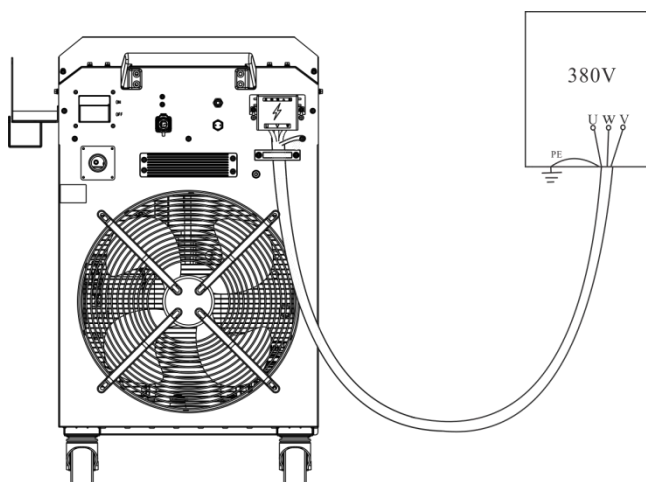

Figure 2-6 Power input connection diagram
1. The input wiring of this product requires wiring in U/V/W phase sequence. When using, please ensure that the machine is connected to a reliable and effective protective ground. The schematic diagram is shown in Figure 2-6.